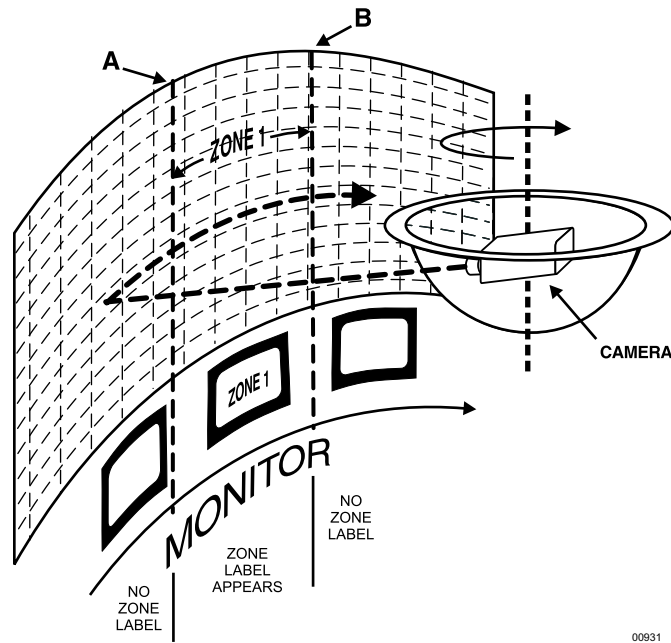

Figure 40. Basic Zone Creation
- Always move the joystick so that camera movement is from left to right. Refer to Figure 40.
If you move the associated camera through the area defined by the zone (approaching the zone edges from either direction), the zone label appears on the selected monitor as you enter the zone and disappears as you exit the zone. Refer to Figure 40.